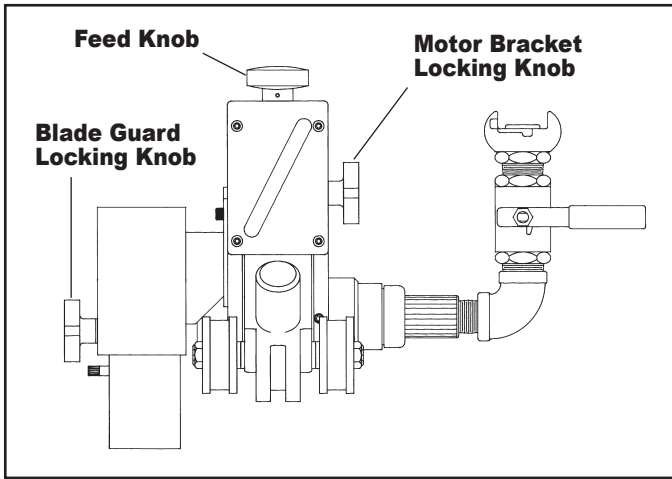

FIG. 4
1. Loosen motor bracket locking knob. (Fig. 4)
2. Retract motor bracket to uppermost position, by turning feed knob counter clockwise. (Fig. 4)
2. Turn cutter feed knob clockwise. (Fig.4) Lower motor and cutter close to, but not touching the pipe. Motor bracket locking knob should be tight, yet allow the bracket to slide.
- 2.\* Knowing the thickness of pipe to be cut, turn the feed knob clockwise, (Fig. 4) until the pointer indicates the desired depth of cutter. Allow at least 1/4" of blade beyond depth of cut.
\*Exception to this would be if the bevel cutter was being used for plastic, then the cutter would be engaged until the bevel cutter began cutting. At this point the depth gage pointer could be used to determine amount of bevel. Full engagement produces a 15/16" bevel. (Fig. 4)
3. Tighten motor bracket locking knob. (Fig. 4)
4. Tighten blade guard locking knob approximately 1/8" from pipe. (Fig. 4)